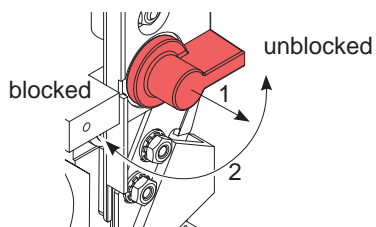

Figure 3 Transport-locking
1. Axle part of hinges (3) mount like Figure 3 .
2. Applicator hang with the female part (1) of hinges at the printer mounted hinges parts (3).